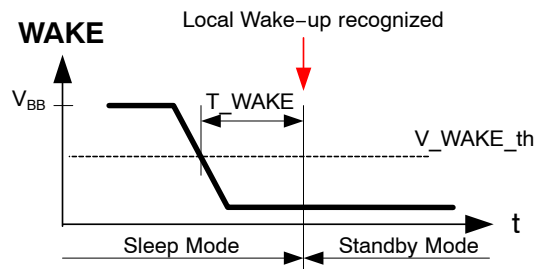

Figure 4. Local Wake-up Detection
- Local wake-up – when a high-to-low transition on pin WAKE is encountered and WAKE pin remains Low at least during  $T_{WAKE}$  – see Figure 4.